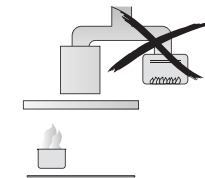

Fig. 1
- The exhaust from the rangehood must not be discharged into any heating flue, which may carry combustion products from other sources. (Fig.1)